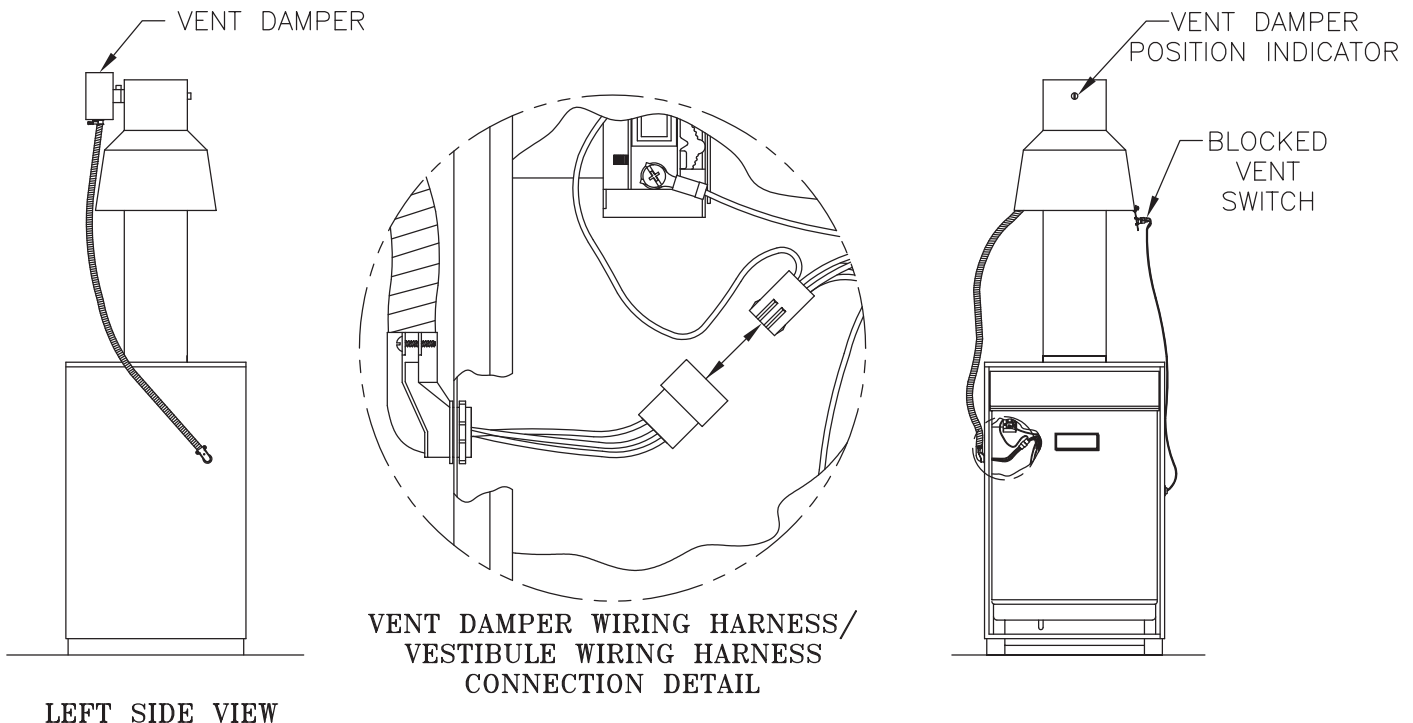

Figure 24: Vent Damper Installation
E. Boiler Equipped With Vent Damper. See Figure 24.
B. Wire Vent Damper (if used; optional on 16H-340 thru 16H-505). See Figure 24.
3. Plug Vent Damper Harness Plug into Vent Damper Receptacle. See Figure 24.